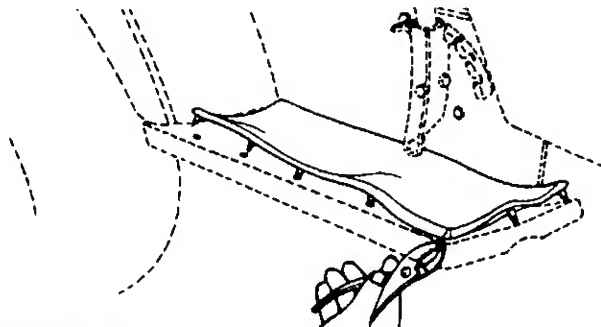

FIGURE 8.
1. If not already assembled, attach the foot pads as follows. Position one foot pad on top of the running board on the tractor, lining up the studs on the bottom of pad with the holes in the running board. Pull the studs through the holes in the running board using a pair of pliers. Repeat on other side of tractor. See figure 8.